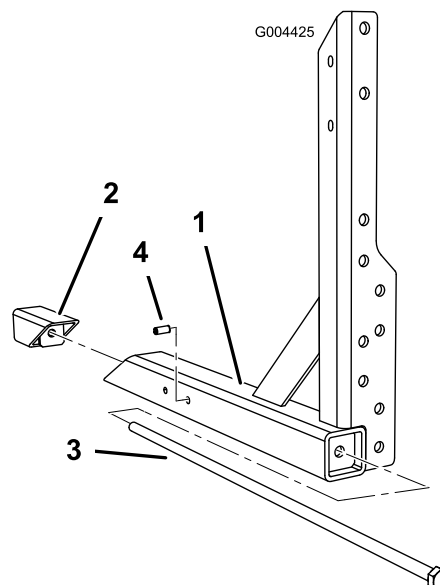

Figure 6
1. Assemble the frame bolt through the upright and into the frame wedge (Figure 6). Repeat for the opposing boom upright.
2. For 5700 turf sprayers, install a roll pin into the outside hole, closest to the angle support (Figure 6). Repeat for the opposite boom upright.